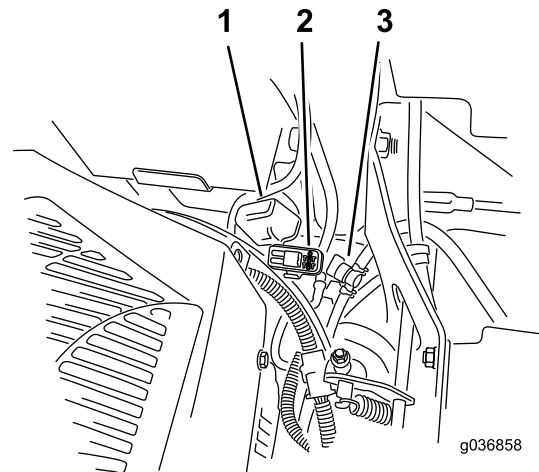

Figure 76
The fuses are located on the right console next to the seat (Figure 76).
2. Install a new fuse (Figure 76).